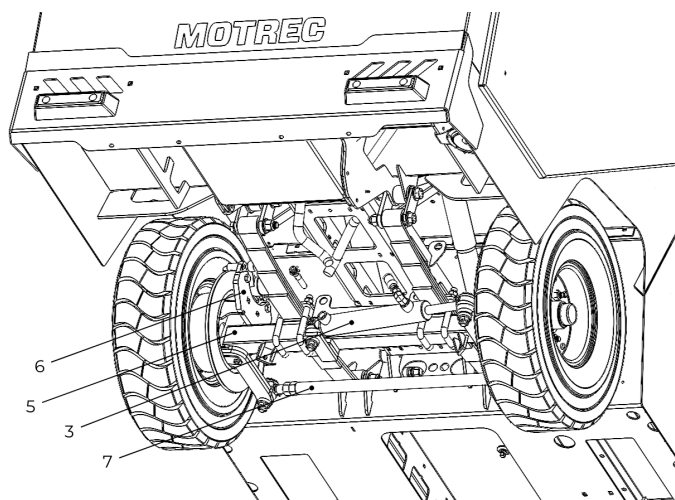

Figure 33. General Steering Inspection.
- Steering cylinder (3). (See Figure 33)
- Axle beam (5). (See Figure 33)
- Right and left spindles (6). (See Figure 33)
- Tie rod (7). (See Figure 33)